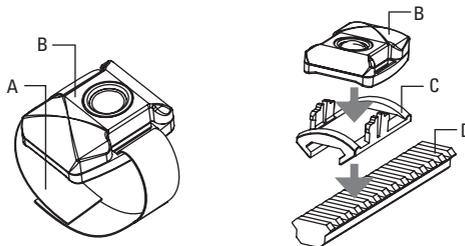

FIGURE 3-4. ADVANCED WIRELESS REMOTE CONTROL
Using the supplied Velcro tape (A, Figure 3-4), fasten the remote control (B) to your weapon in an easily accessible place (e.g., on the front of the rifle stock).